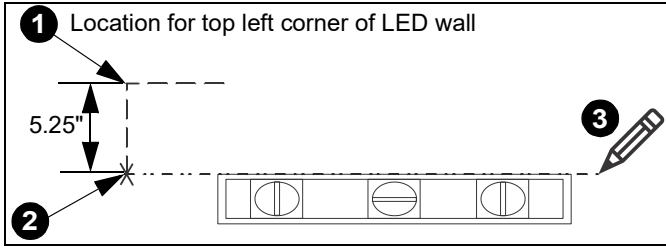
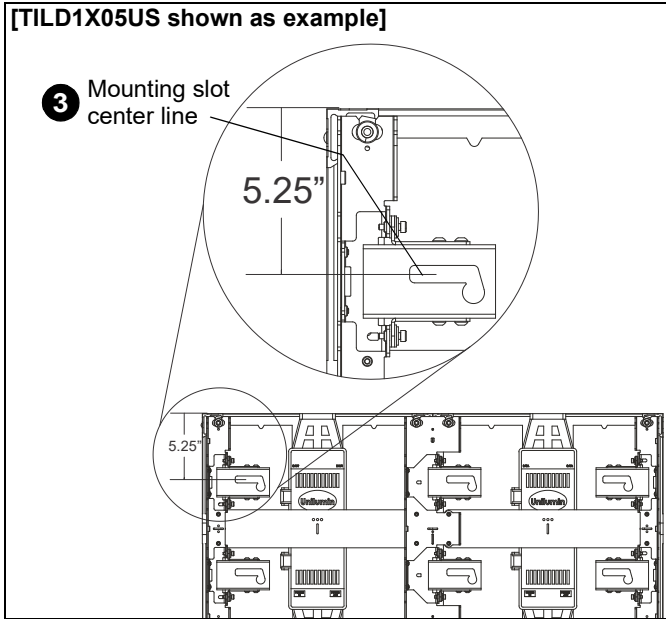

Figure 5
Figure 6
IMPORTANT ! : The top of the LED screen is 5.25" above the center line of the mounting lags in the upper mounting slots. (See Figure 5)
1. Determine location for the **top left** corner of the LED wall. (See Figure 5)
2. Make a mark 5.25" below the planned top left corner of the LED wall. (See Figure 5)
NOTE: This line will indicate the center line for the location of the mounting lags in the mounting slots for the top mount(s) in the video wall. The oversize mounting slots will allow some upward adjustment as needed. (See Figure 5) and (See Figure 6)